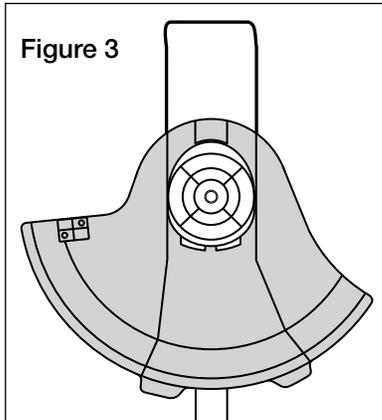

Figure 3
- 4) Place the Shield over the blade shaft and snap into place (Figure 3).